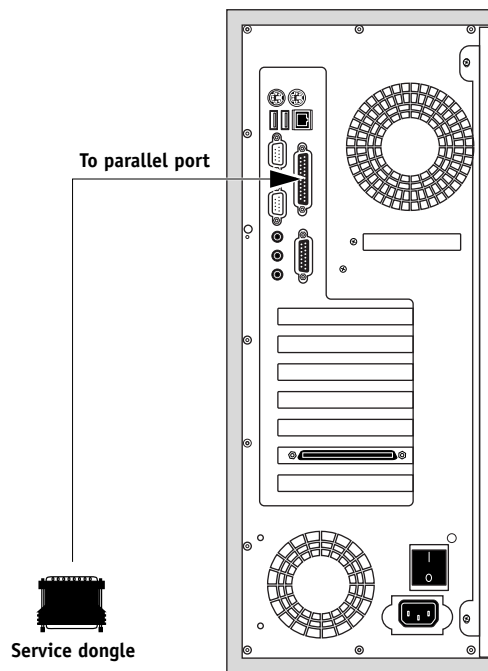

FIGURE 4-17 Connecting the service dongle
5. **Unpack the one-use-only service dongle included with the new motherboard and connect it to the parallel port on the back of the E-810 (see Figure 4-17).**
3. If you have not done so already, connect the one-use-only service dongle to the parallel port on the back of the E-810 (see Figure 4-17 on page 4-30).